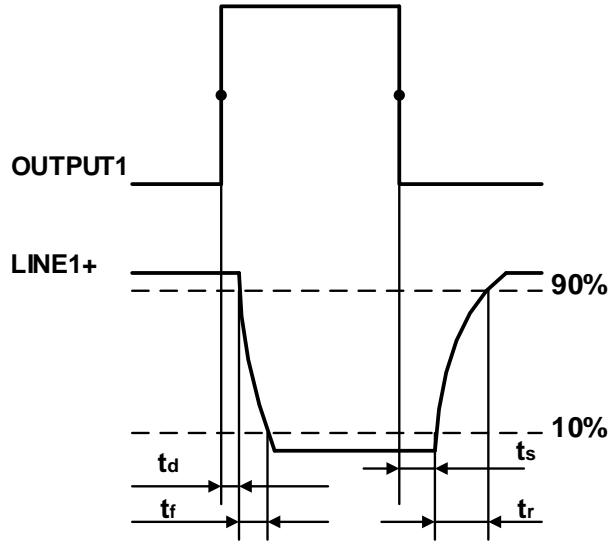

Figure 7-13 Parameter of opto-isolated output circuit
- Rising time delay = tr+td: <50μs (0°C~45°C) (parameter description is shown in Figure 7-13)
- Falling time delay = ts+tf: <50μs (0°C~45°C) (parameter description is shown in Figure 7-13)